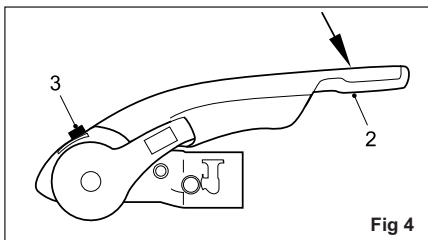

Fig 4
WARNING: The coupling is correctly engaged when the green edge of the safety indicator button is visible (Fig. 4/Item 3).
- To operate the Stabiliser (once coupled to the towball), simple press the stabiliser lever down as far as it will go (Fig. 4/Item 2).